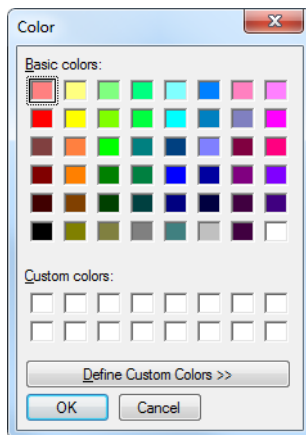

Figure 7-49 The Color dialog box
- f) To change a color, click on it and select an alternative color using the **Color** dialog box (see Figure 7-49 on page 385).